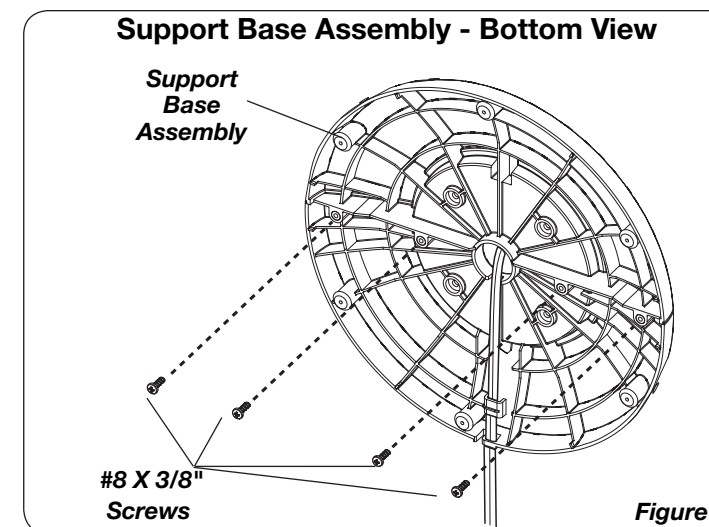

Figure 2
- Secure the (4) #8 X 3/8" Screws into the four holes in the bottom of the base. (**Figure 2**)